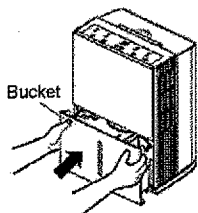

Fig. 6
4. Reinsert the bucket into the dehumidifier (Fig. 6).
4. Place the bucket in the dehumidifier for operation. (Fig. 6)
(Fig. 6)